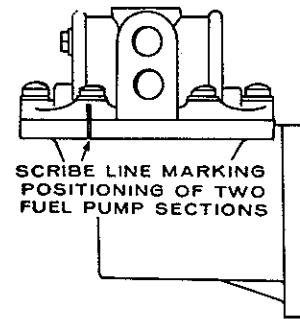

FIGURE 7-2. SCRIBE LINE
- a. After fuel pump is removed from engine, scribe a line on flanges of pump body and valve housing to mark their original position (see Figure 7-2).